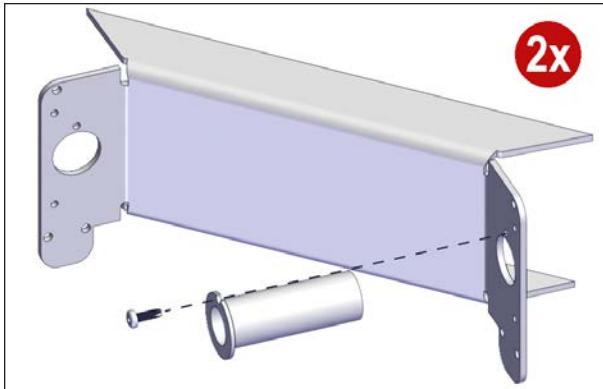
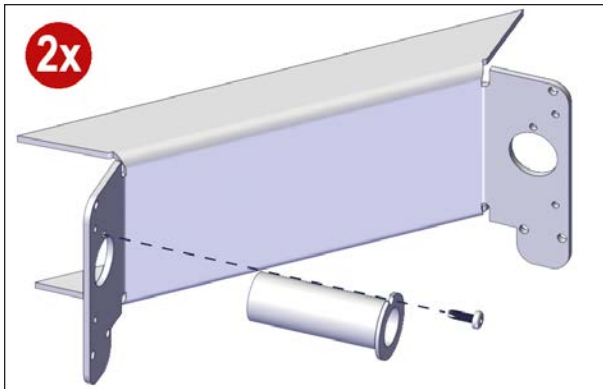

FIGURE 43: HEXAGONAL GUIDE BUSHING INSTALLATION
FIGURE 44: HEXAGONAL GUIDE BUSHING INSTALLATION
1. Install one hexagonal guide bushing into each corner bracket support so that you have 2 left and 2 right corner bracket supports. Secure with one no. 8 x 1/2" self-tapping screw, see Figure 43 and Figure 44.